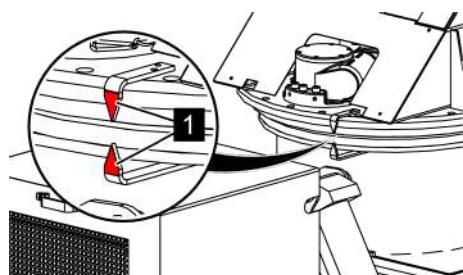

Fig. 93: Red arrows
4. ➔ Swivel the platform in the direction of transport position (☞ Chapter 6.8 'Operating the machine' on page 100) until both red arrows (Fig. 93/1) meet.